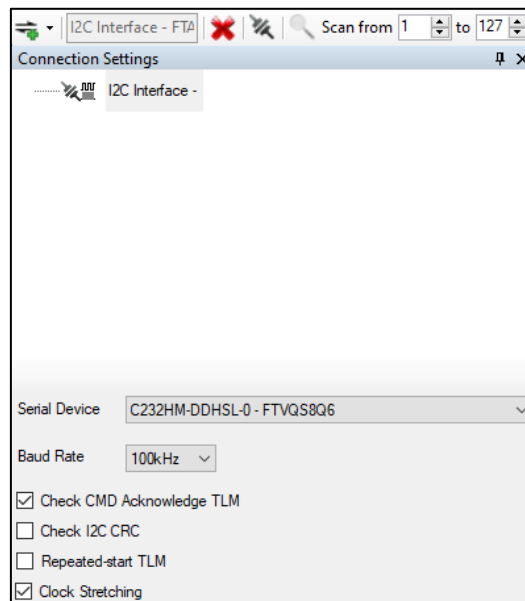

Figure 38: I2C default settings
- 6) Ensure that the default settings are used, and that the correct Serial Device is selected. Figure 38 shows the default settings: